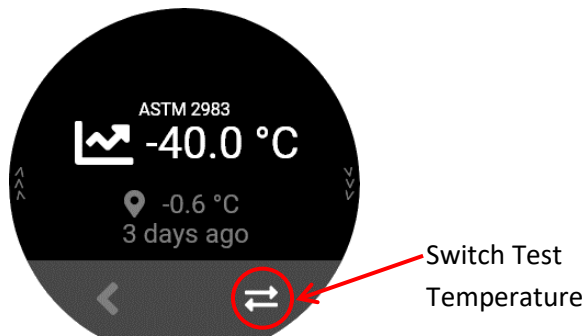

Figure 36: Select Switch Test Temperature
27. If you find the temperature you want, press the **Switch Test Temperatures** button. See Figure 36. This will bring you back to the home screen. You have now finished sample preparation.